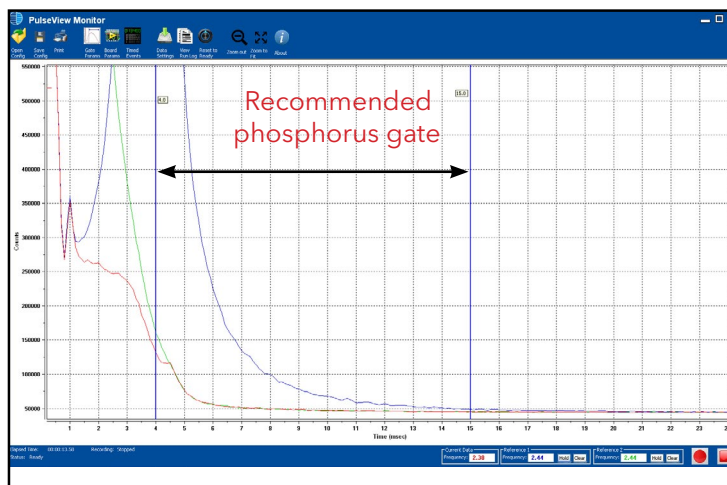

Figure 6.4. Phosphorus Emission and Gate Settings for Maximizing Phosphorus (The PMT Voltage Was Set to 400 V)
3. Delay the gate A start time relative to that shown in Figure 6.4 to increase selectivity between the phosphorus and hydrocarbon emissions (i.e., increase the gate A **Start Time** in the Gate Parameters screen to 4-6 ms or more), minimizing hydrocarbon and phosphorus response overlap.